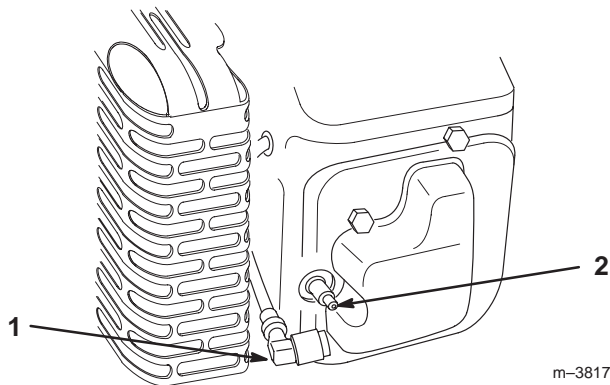

Figure 29
2. Pull the wire(s) off the spark plug(s) (Fig. 29). Now clean around the spark plug(s) to prevent dirt from falling into the engine and potentially causing damage.
3. Push the wire(s) onto the spark plug(s) (Fig. 29).